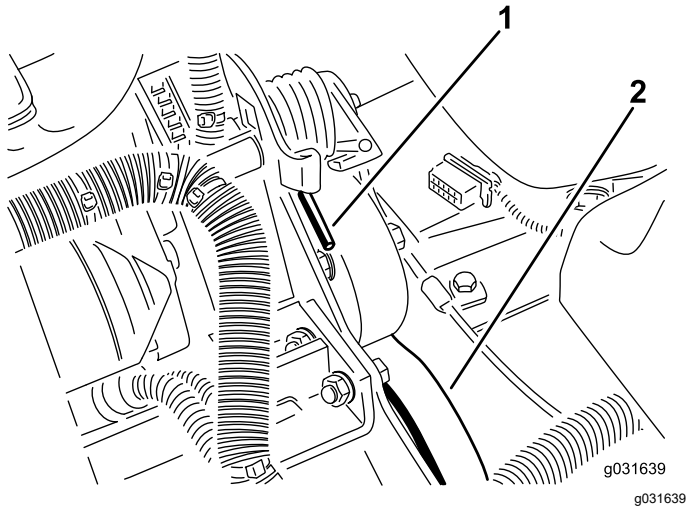

Figure 59
2. Push down and forward on the spring end to unhook it from the bracket and release tension on the spring (Figure 59).